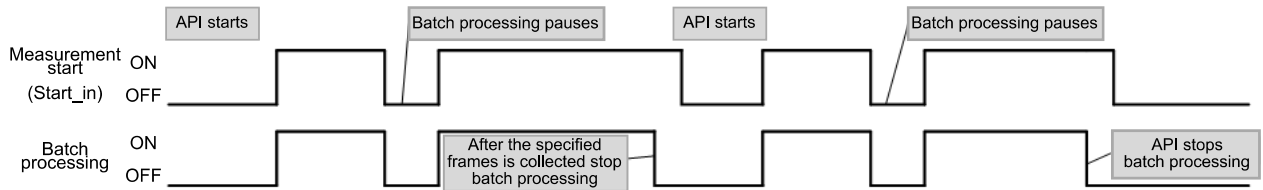

Figure 4-6 Level continuation mode
- Mode 2 - Level continuation mode: After calling the API to start batch processing, batch processing will be performed when the signal is input, and batch processing will be suspended when there is no input. Automatically stop batch processing after collecting the specified number of rows, or call the API to stop batch processing. The signal timing diagram is shown in Figure 4-6 Level continuation mode.